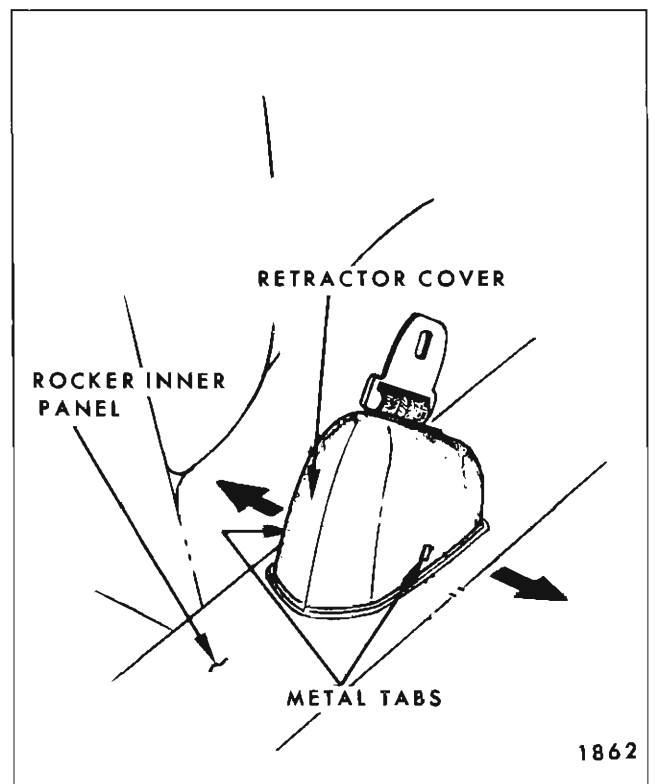

Fig. 1H47—Removal of Seat Belt Retractor Cover -
1. Using fingers, gently squeeze retractor cover at forward and rearward ends to spread sides of cover outward sufficiently to disengage cover from metal tabs on sides of retractor base. (See Fig. 1H47).